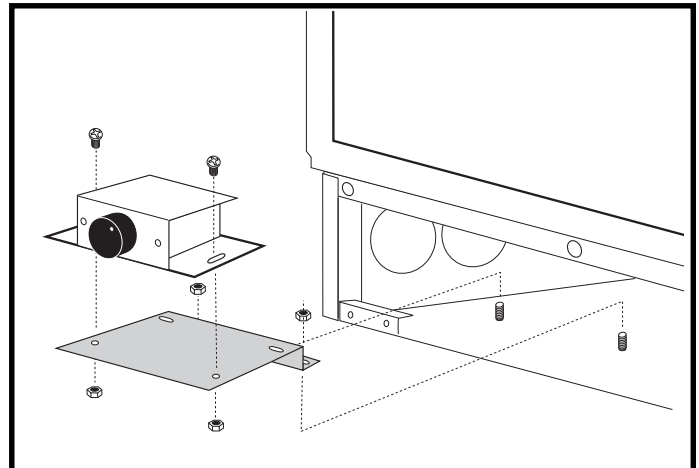

Fig. 34. Attach the control box to the bracket and install bracket into the cabinet.
- b) Attach the Fan Speed Control Box to the Bracket (Fig. 34) and install the Bracket into the Cabinet.
- c) Install the Control Knobs Extensions onto the appropriate Control Valve Knobs (Fig. 34).